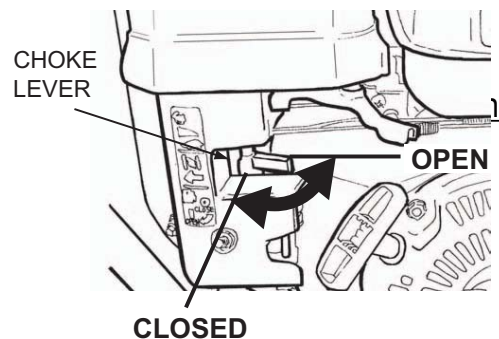

Figure 8. Choke Lever
11. Place the Choke Lever (Figure 8) in the "OPEN" position.
14. If the engine has started, slowly return the choke lever (Figure 8) to the **CLOSED** position. If the engine has not started repeat steps 1 through 5.